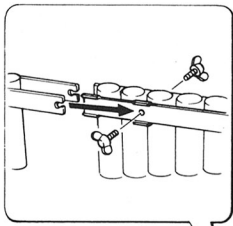
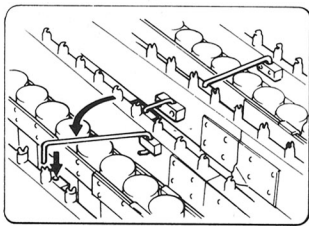
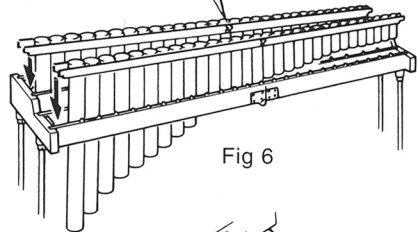

Fig 5
Fig 7
Fig 6
- 4 Assemble the resonators. (Fig 5) Lower the resonators over the frame into the resonator holders. (Fig 6) The rail clamps should be swung across the resonators and inserted into the blocks. (Fig 7)